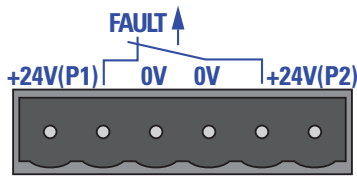

Figure 2: Pin assignment of the signal contact
- ▶ The signal contact (“FAULT”, for pin assignment of terminal block, see fig. 2) monitors the functioning of the device, thus enabling remote diagnostics. You can specify the type of function monitoring in the Management.